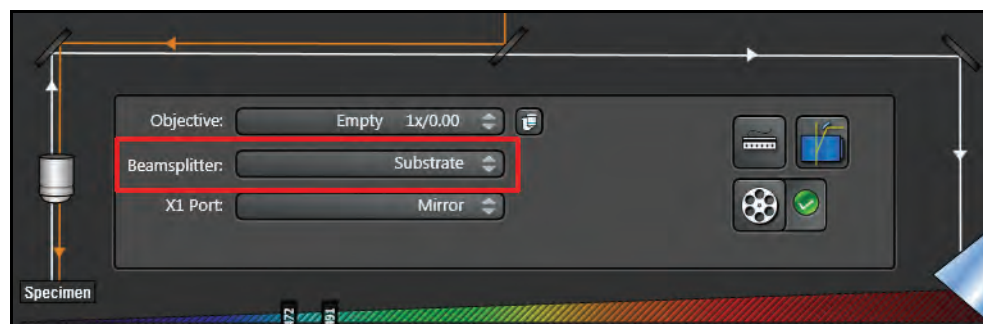

Figure 105: Setting the beam splitter to substrate
- If you work on a beam splitter system, set the **beam splitter** to **Substrate** in the **Beam Path Settings** in LAS AF (**Figure 105**). In case you want to use a pulsed laser combined with a continuous wave laser line, chose the corresponding main beam splitter that reflects the continuous wave laser line into the scan head.